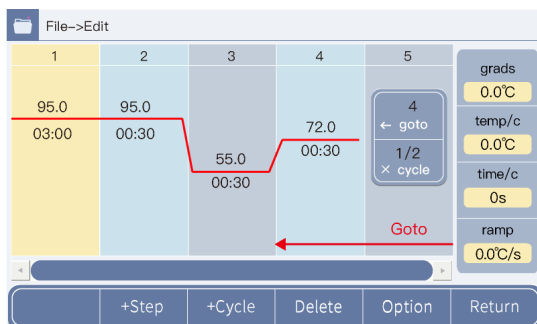

Fig 5. Cycle Setting Screen
- Set the cycle. Enter all the steps required for the cycle. Select the last step of the cycle and highlight it in yellow. Then touch the <+Cycle> button and enter the step number of the beginning of the cycle and the number of cycles. (Figure 5)